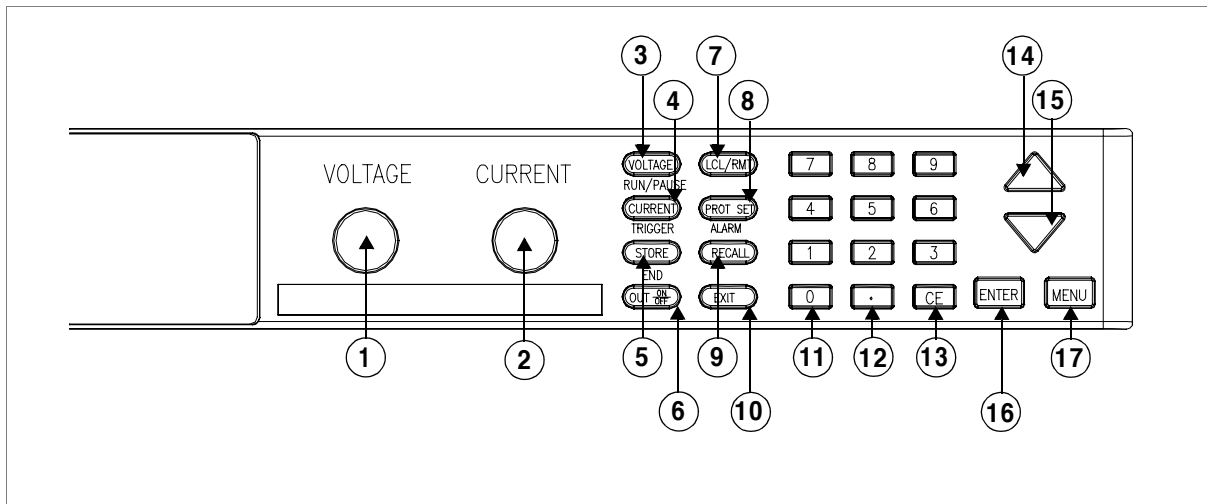

Figure 1.2 Keypad
8. Keypad. (See Figure 1.2 for details.)